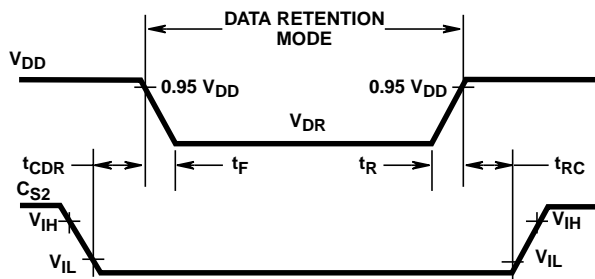

FIGURE 3. LOW  $V_{DD}$  DATA RETENTION TIMING WAVEFORMS
**Data Retention Specifications** at  $T_A = 0^\circ\text{C}$  to  $+70^\circ\text{C}$ ; See Figure 3